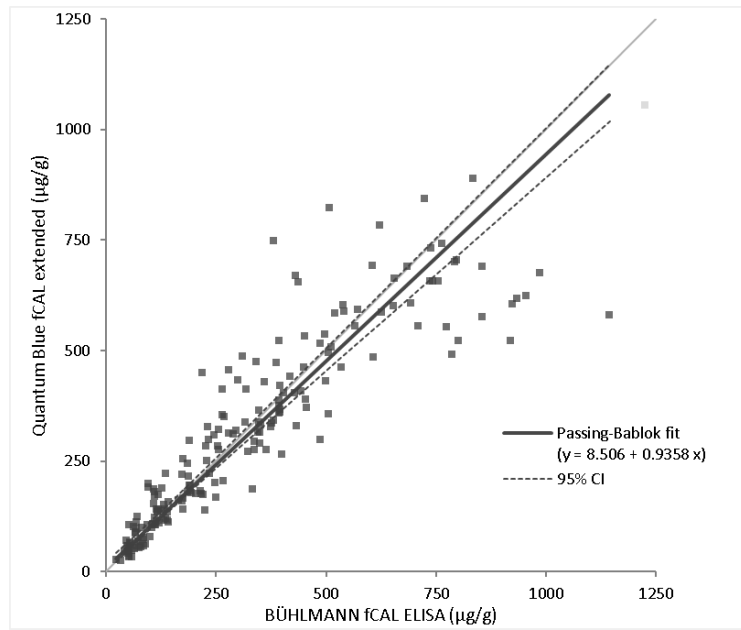

Figure 2
The method comparison study was performed according to the CLSI guideline EP09-A3. One hundred and eighty six (186) extracted stool samples were measured according to the instruction for use with the Quantum Blue® fCAL extended test and with the BÜHLMANN fCAL® ELISA. Measurements were performed over three days using three Quantum Blue® fCAL extended test cassette lots (figure 2).